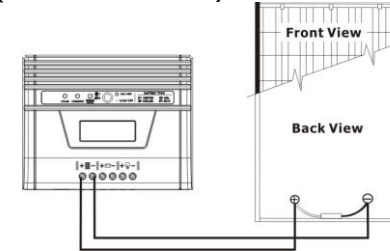

Fig. 7
1) Single solar module connection (Refer to Fig. 7): When using a single solar module, its voltage must not exceed the maximum solar module open circuit voltage (see below Table 1).